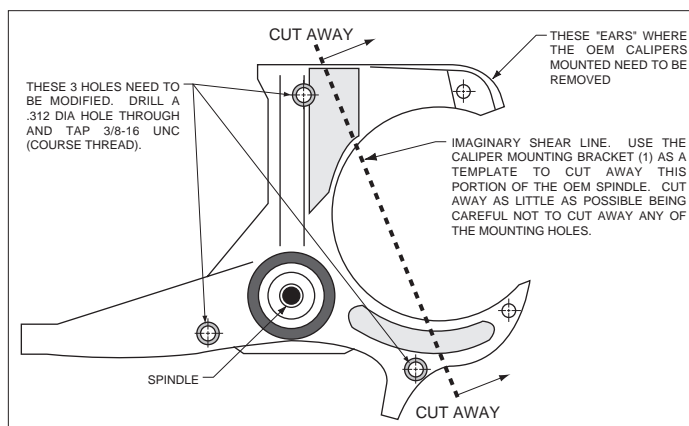

Figure 2. Typical Steering Arm / Spindle Modifications
- Review the wheel clearance diagram (figure 2, page 4) to verify that there is adequate clearance with the wheels you will be using with the installation. This kit will result in the wheels being moved out approximately 1/8" beyond the stock location.
- The following spindle modifications should be performed by a qualified machinist. Refer to Figure 2 as necessary. Only one view of the steering arm/spindle is shown, but the modifications need to be performed on both steering arm/spindles.